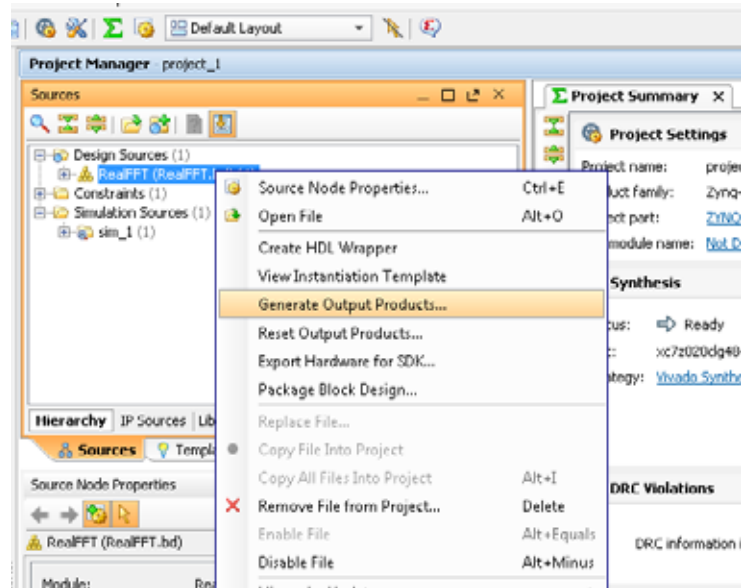

Figure 9-24: Generating Output Products
- a. In the Sources tab of Project Manager pane (Figure 9-24), right-click **RealIFFT.bd** and select Generate Output Products.